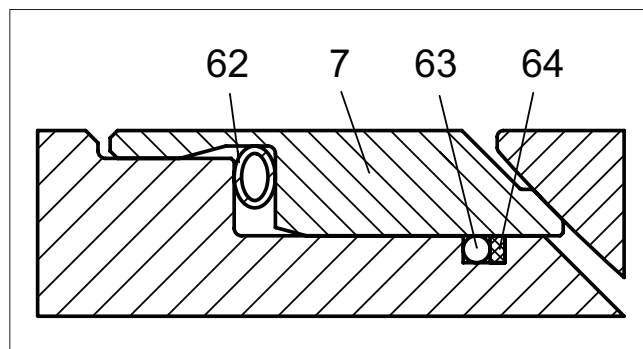

Fig. 8 T and S seats
- Place the back seals (63) into their position to the body grooves. See Figure 8.
- Place the back-up rings (64) made of PTFE strips at the side of the O-ring. To ensure that the seam becomes flexible, the strip must have slanted ends.
- Place the spring (62) into the groove in the seat (7). See the instructions at the beginning of this section.